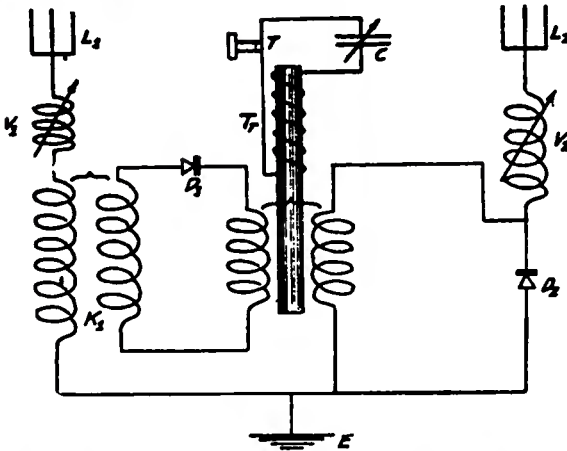

Figure 201—de Groot audio frequency compensation method for the elimination of periodic strays
**Type 1.** These are strays originating in nearby thunderstorms, and they have only a short range. They are found to be of periodic character (i. e., decaying wave trains of definite period and decrement). They are heard in the receiver as loud, widely separated clicks, and may be eliminated by audio or radio frequency compensation. The arrangement given by de Groot for this purpose is shown in Figure 201 and is explained by him as follows: "Two receiving antennas,  $L_1$ ,  $L_2$  of the same shape and dimensions were installed near enough together (10 or 20 meters or 30 to 60 feet apart) to make them respond in the same way to strays. (For the aperiodic disturbances, this distance could be easily increased, but for periodic disturbances the distance of separation must be small compared to the wave-length of the strays, in order to get the induced e.m.f.'s in phase). On the other hand, the antennas must be placed sufficiently far apart so that the signals set up in the one which is made aperiodic ( $L_2$ ) shall not cause currents in the tuned antenna ( $L_1$ ). One of the antennas,  $L_1$ , is tuned to the incoming signal and coupled to the detector circuit  $D_1$  in the ordinary way. The detector  $D_1$  will rectify signals as well as strays and send the rectified current into the telephones; or, as in the case of the Figure, into the differential transformer  $T_r$ . The antenna  $L_2$  is tuned either to the same, or preferably to a longer wave-length, thus making it less sensitive to the signals and more sensitive to the long wave strays. The detector  $D_2$  is switched directly into this antenna, thus making it aperiodic or nearly so. This arrangement makes it almost impossible to receive any distant signals on the antenna  $L_2$ , but loud signals on wave-lengths different from those to which  $L_1$  is tuned and strays give a response that is nearly as loud as can be obtained on the tuned antenna  $L_1$ . The rectified current is sent to the same telephone mentioned before; or, as in the Figure, to the differential transformer  $T$ . However, this second current from the aperiodic antenna  $L_2$  is arranged to act in the opposite direction from that of  $D_1$ . The